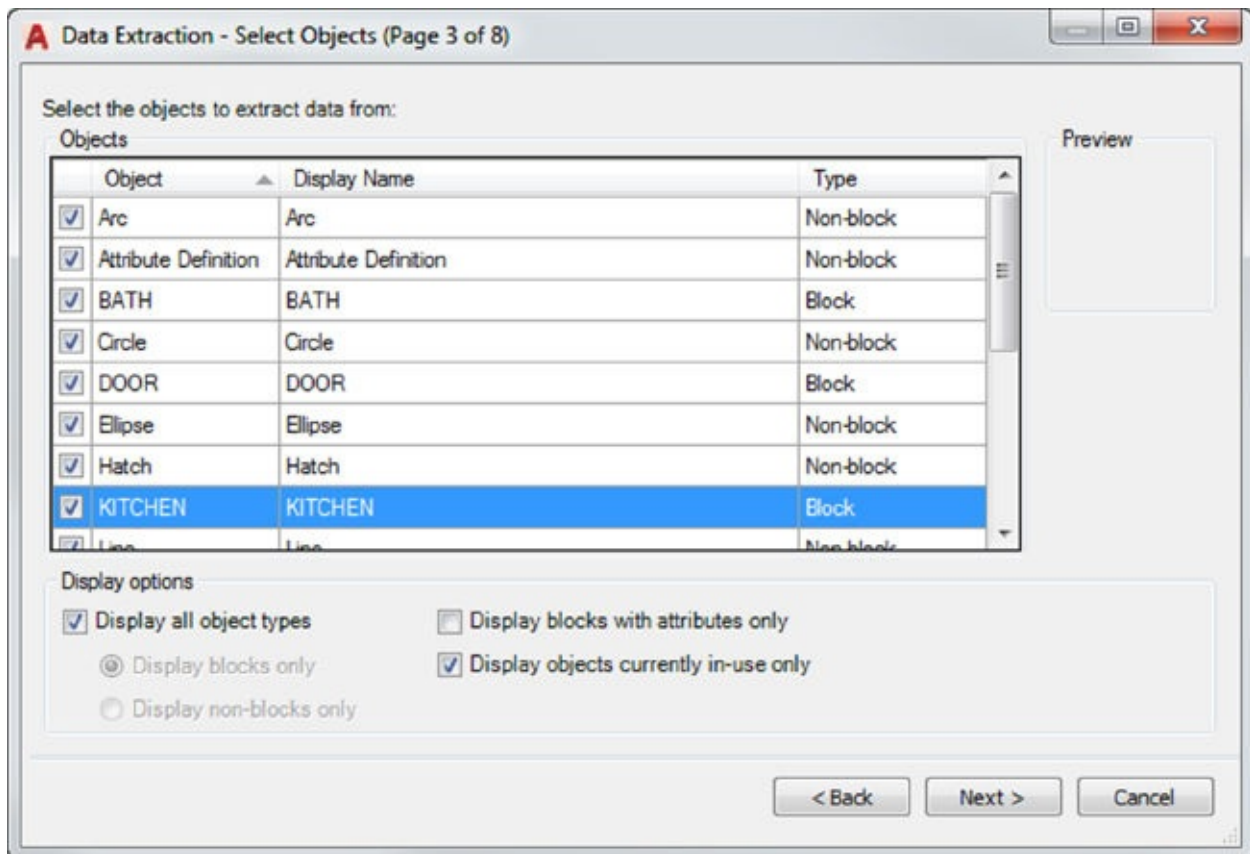

FIGURE 12.17 The Select Objects page
4. Click Cancel to close the Additional Settings dialog box, and then click Next to open the Select Objects page (see Figure 12.17).